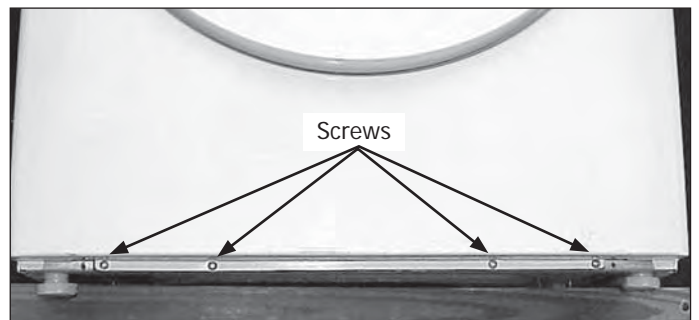
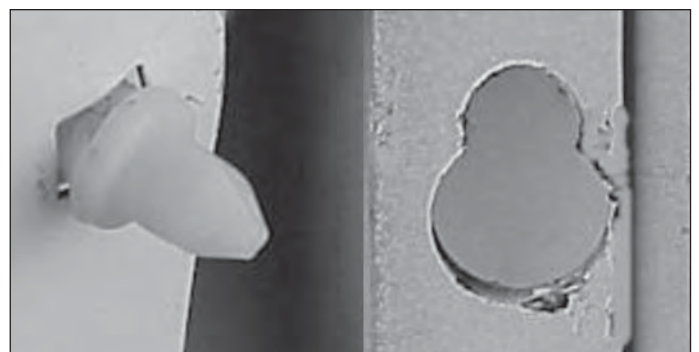

Figure 4-30.
Figure 4-31.
4. Raise the front of the washer and remove the (4) screws securing the front panel to the washer base. (See Figure 4-30)
5. Remove the (4) screws securing top of the panel.
6. Lift up and out on the front panel to disengage it from the (4) nylon pins, two in the front of each side panel, and lift the front panel off. (See Figure 4-31)